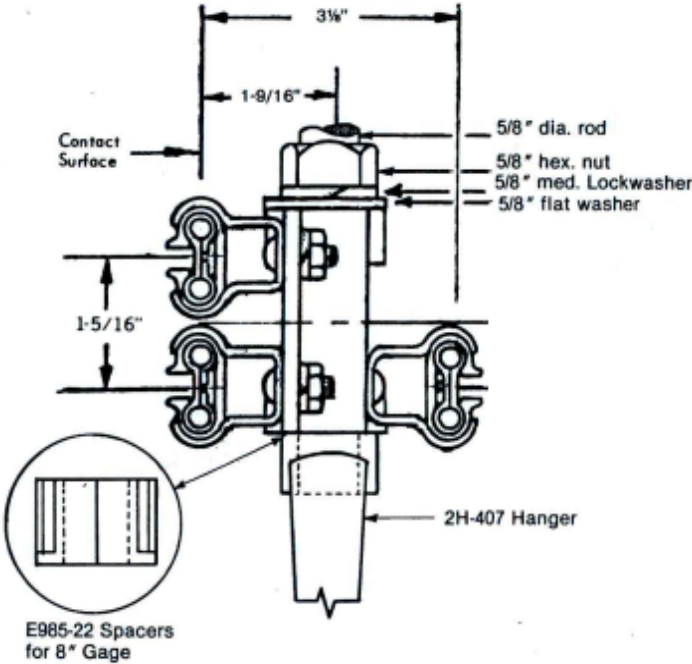
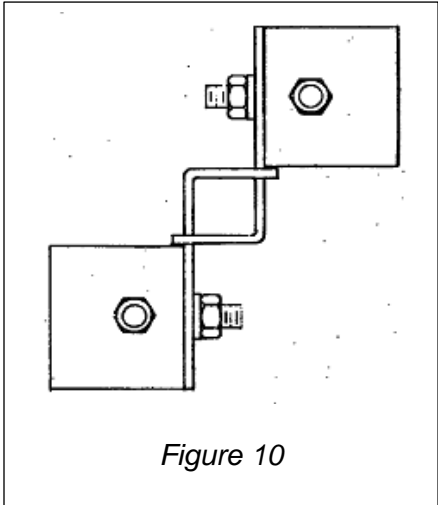

Figure 9
Figure 10
- ✓ Side Contact Conductors: if the rail has been provided with punched web holes for “side contact” mounted bars, begin by installing the mounting brackets. See Chart “B” of these instructions for bracket configurations. If the rail web has not been punched, locate and drill mounting holes per instructions shown in Figure 9.
Typical assembly of side contact conductor bar mounting bracket on rod supported rails (see Figure 9 and Figure 10). A support bracket is required on every hanger on 2R3-5T rail. Figure 10 shows a top view of the interlocking Rod Mounting Brackets.